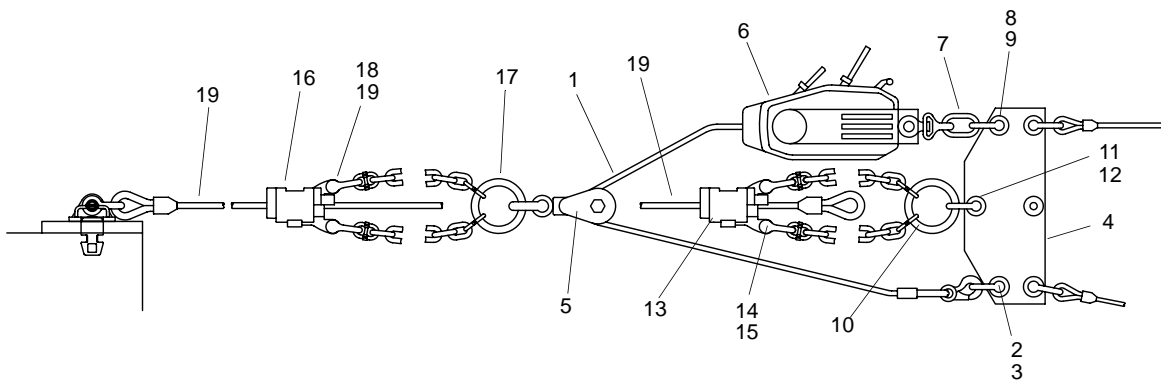

Figure 22. Onshore Mooring Tackle
14. Disconnect free end of griphoist cable (figure 22, item 1) from 1 in. shackle (figure 22, item 2).
15. Remove 1 in. shackle (figure 22, item 2) and pin (figure 22, item 3) from flounder plate (figure 22, item 4).
16. Route griphoist cable (figure 22, item 1) through snatch block (figure 22, item 5).
17. Disconnect fixed end of griphoist (figure 22, item 6) from master link (figure 22, item 7).
18. Disconnect master link (figure 22, item 7) by removing 1 in. shackle (figure 22, item 8) and pin (figure 22, item 9) from flounder plate (figure 22, item 4).
19. Disconnect ring and chain assembly (figure 22, item 10) from flounder plate (figure 22, item 4) by removing 1 in. shackle (figure 22, item 11) and pin (figure 22, item 12).
20. Disconnect second carpenter stop (figure 22, item 13) from ring and chain assembly (figure 22, item 10) by removing 1 in. shackles (figure 22, item 14) and pins (figure 22, item 15).
21. Disconnect first carpenter stop (figure 22, item 16) from ring and chain assembly (figure 22, item 17) by removing 1 in. shackles (figure 22, item 18) and pins (figure 22, item 19).
22. Disconnect ring and chain assembly (figure 22, item 17) from shackle on snatch block (figure 22, item 5).